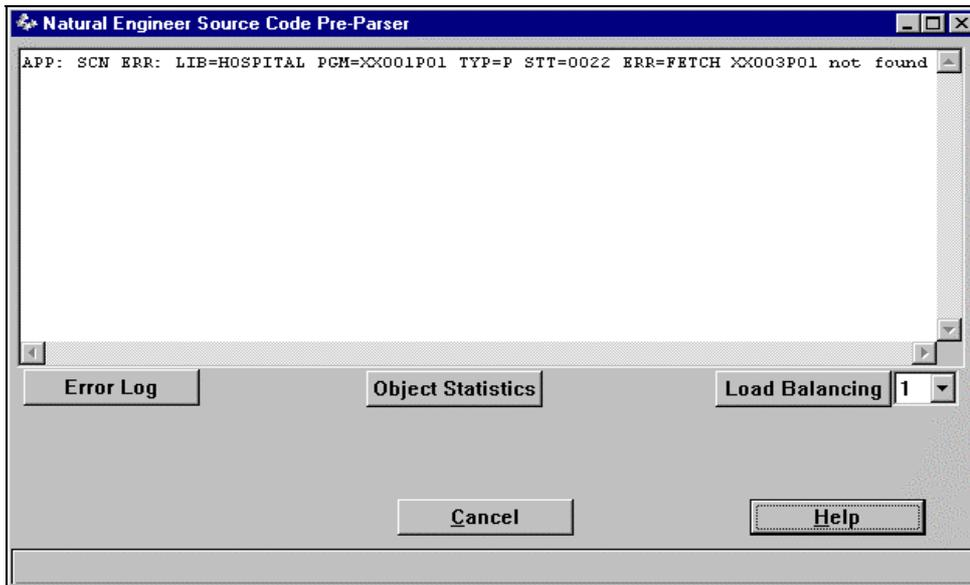

Figure 2-3 Source Code Pre-Parser
The following Figure 2-3 illustrates the Source Code Pre-Parser screen.
*Note: Refer to Figure 2-3 for an example of the error log details and how they are presented.*